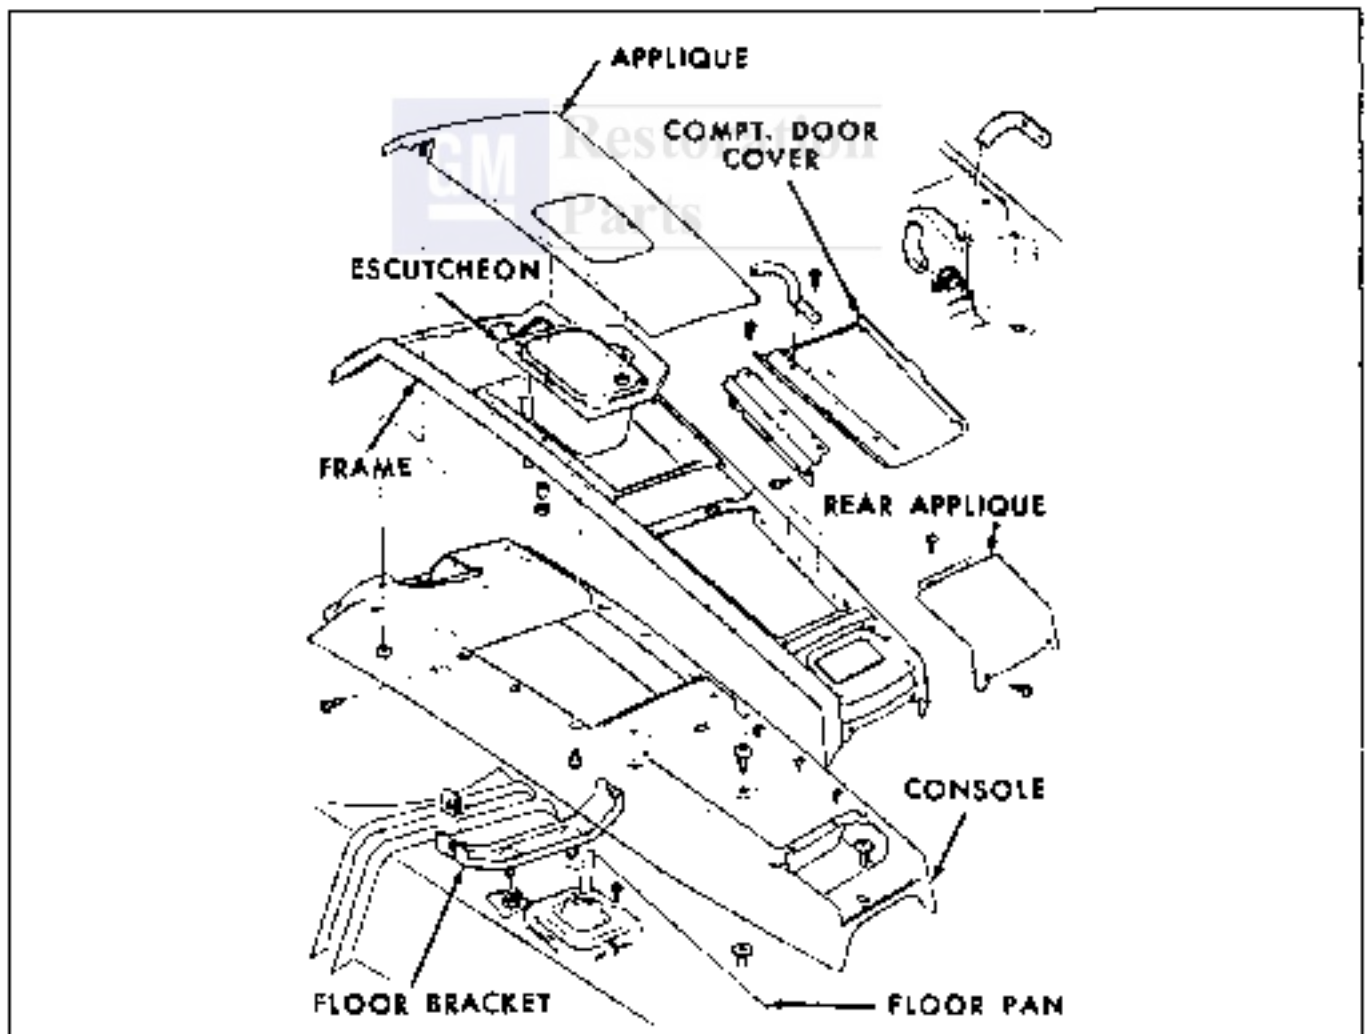

Fig. 15-32 Console—Firebird Manual Transmission
Manual Transmission (Fig. 15-32)
Automatic Transmission (Fig. 15-32)
5. Remove rear applique (see Fig. 15-32) and screw underneath.
7. To disassemble (see Fig. 15-32), remove screws holding upper frame assembly to console. Remove nuts and remove applique and gearshift escutcheon.